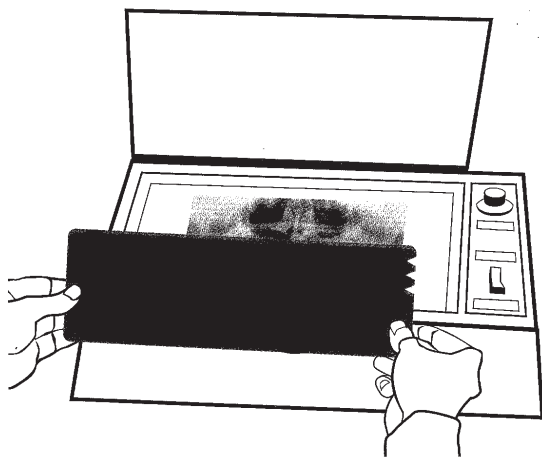

Figure 1 Emulsion or light (salmon pink) toward the light source.
- Place the original radiograph on the glass or plastic top of the duplicator (see Figure 1).
- Place an unexposed sheet of duplicating film on top of the radiograph being duplicated with the emulsion side (salmon pink) down facing the light source (see Figure 1).
The correct way to position this film is to place the salmon pink emulsion side down, towards the light source, on top of the original film to be duplicated, so that light may pass through the original film and to the salmon pink emulsion side of the duplicating film (see Figure 1).
- Duplicating film may have been placed directly against the light source. The original film must be placed against the light source with the duplicating film on top of it (see Figure 1).